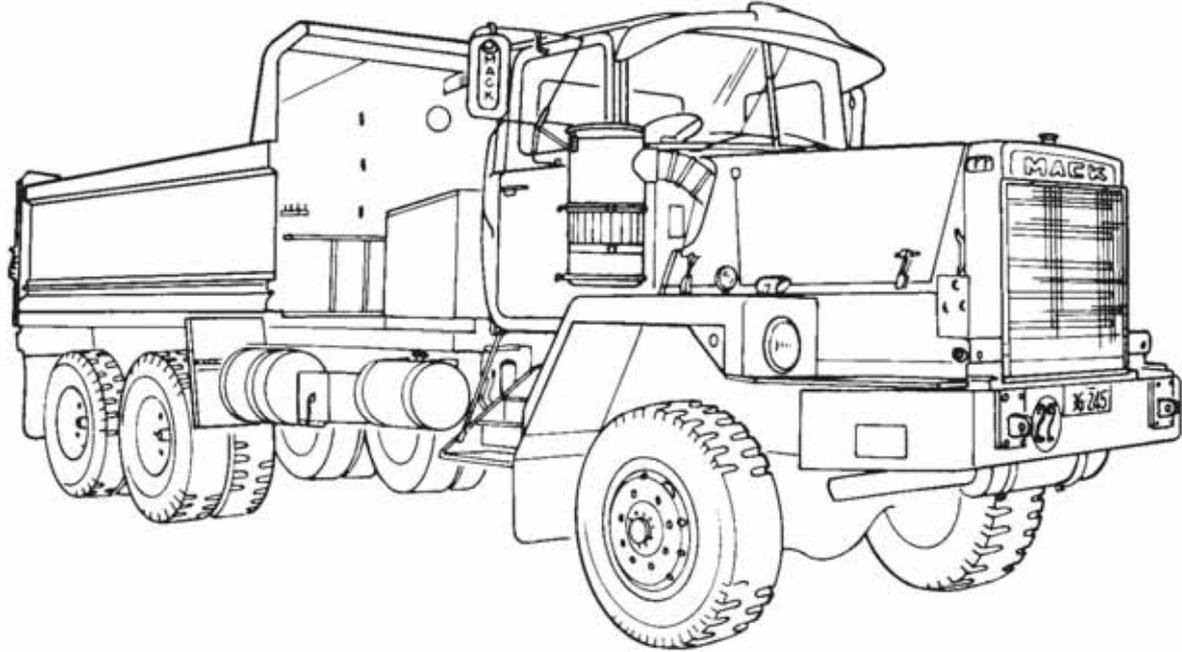

Figure 1 Truck, Dump, Heavy, MC3 – Mack
1. This EMEI describes the technical description of the Truck, Dump, Heavy, MC3 – Mack (Figure 1). All relevant weights, dimensions and performance figures are detailed in the Data Summary, EMEI VEH G 730 (Dump) or EMEI VEH G 730-1 (Dump Winch) as applicable. For further information on the basic data, refer to the relevant EMEI.